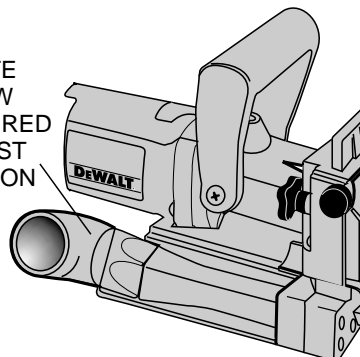

FIG 12
B. Vacuum Hose Adaptor (See Figure 12)